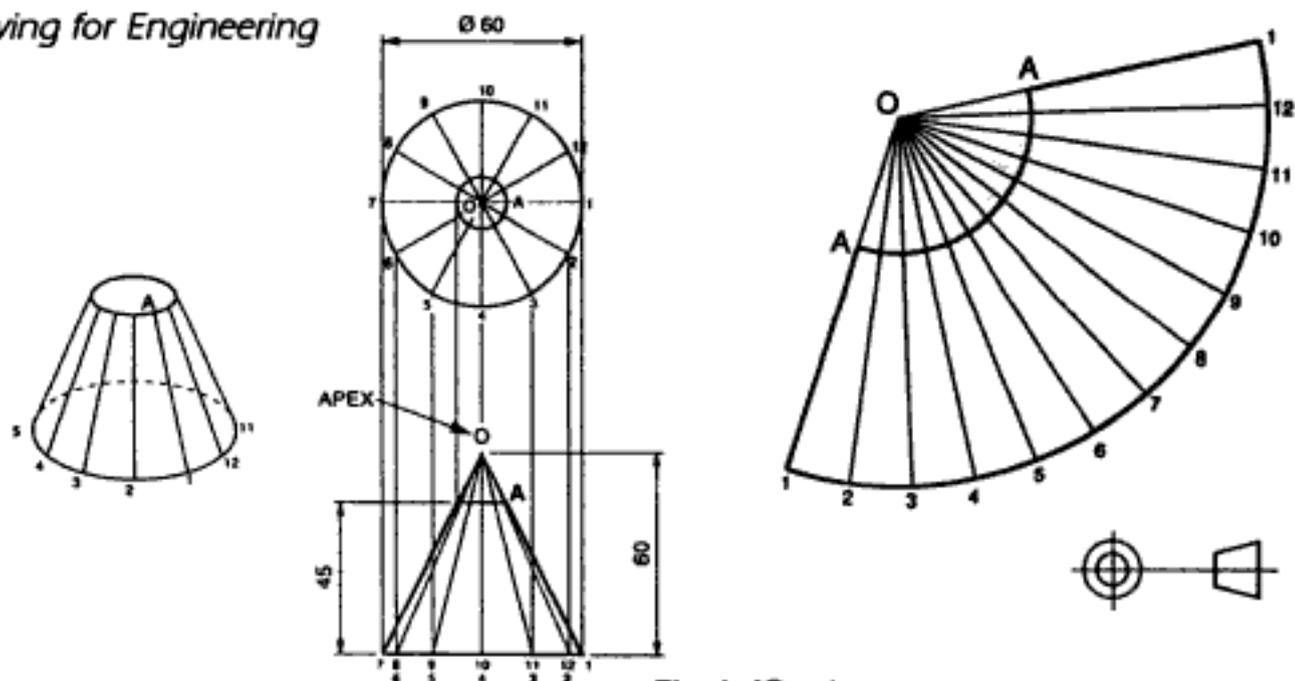

Fig 6.42a-b
Step 1: Draw the front view and top view. Divide the circumference of the circular base into 12 equal parts and number these points and the apex, as shown in fig 6.42a. From each of these numbered points in the top view, project vertically downwards onto the base of the front view and then draw a radial surface line to meet at the apex O.